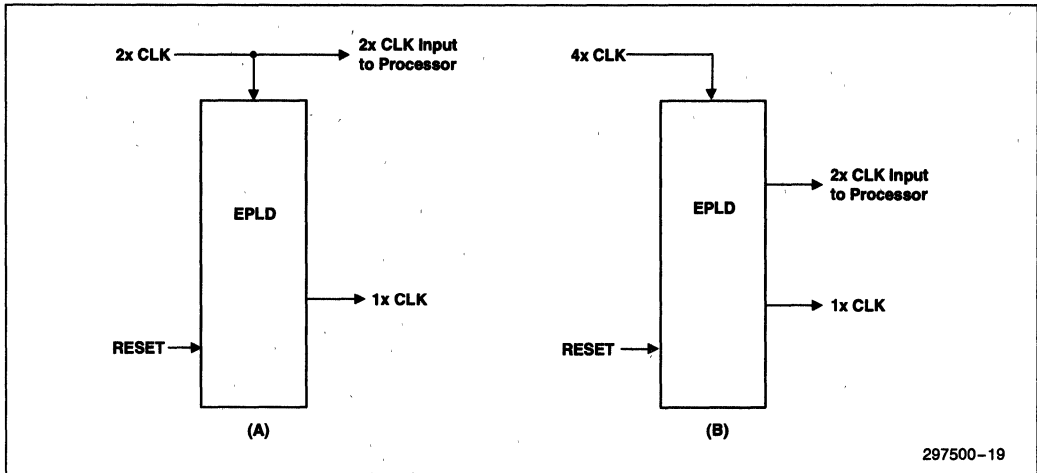

Figure 19. Example 1x CLK Generation and Synchronization Circuitry
Two different methods for generating a 25 MHz CLK are illustrated in Figure 19, and the PLD equations are located in the Appendix A.
The two 1X clock generation methods in Figure 19 will produce a different amount of clock skew between the 2x and 1x CLK. Clock generation method (A) will have